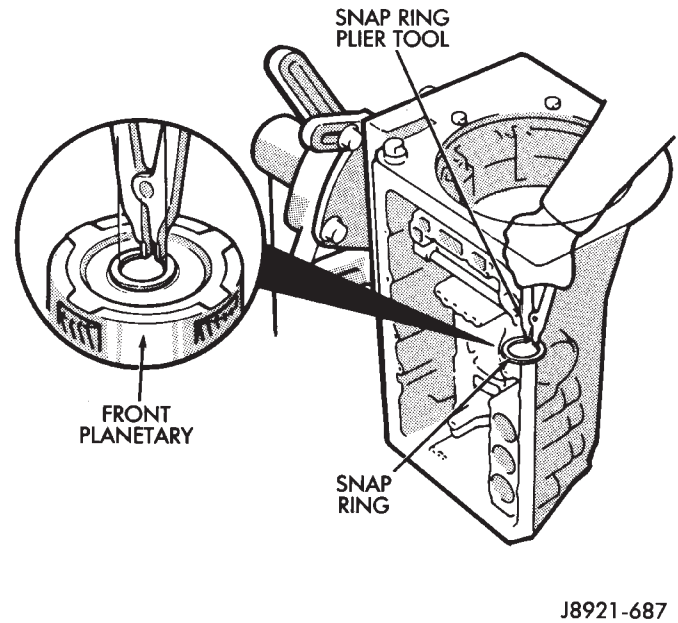

Fig. 143 Installing Front Planetary Snap Ring
(35) Install planetary snap ring on sun gear with snap ring plier tool 7541 (Fig. 143).
(36) Install tabbed thrust race on front planetary gear. Washer tabs face down and toward gear. Race outer diameter is 47.8 mm (1.882 in.). Inside diameter is 34.3 mm (1.350 in.).